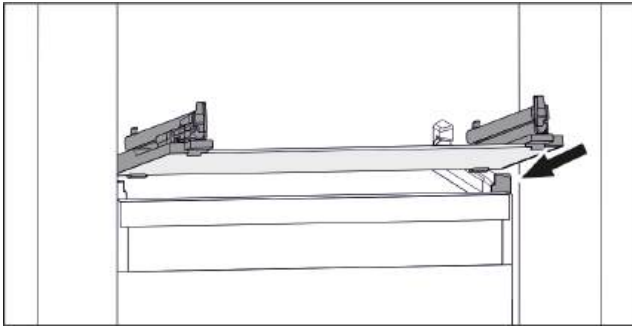

Fig. 112 Example illustration of glass shelf
- ▶ Position glass shelf at an angle behind the stoppers. (see Fig. 112)